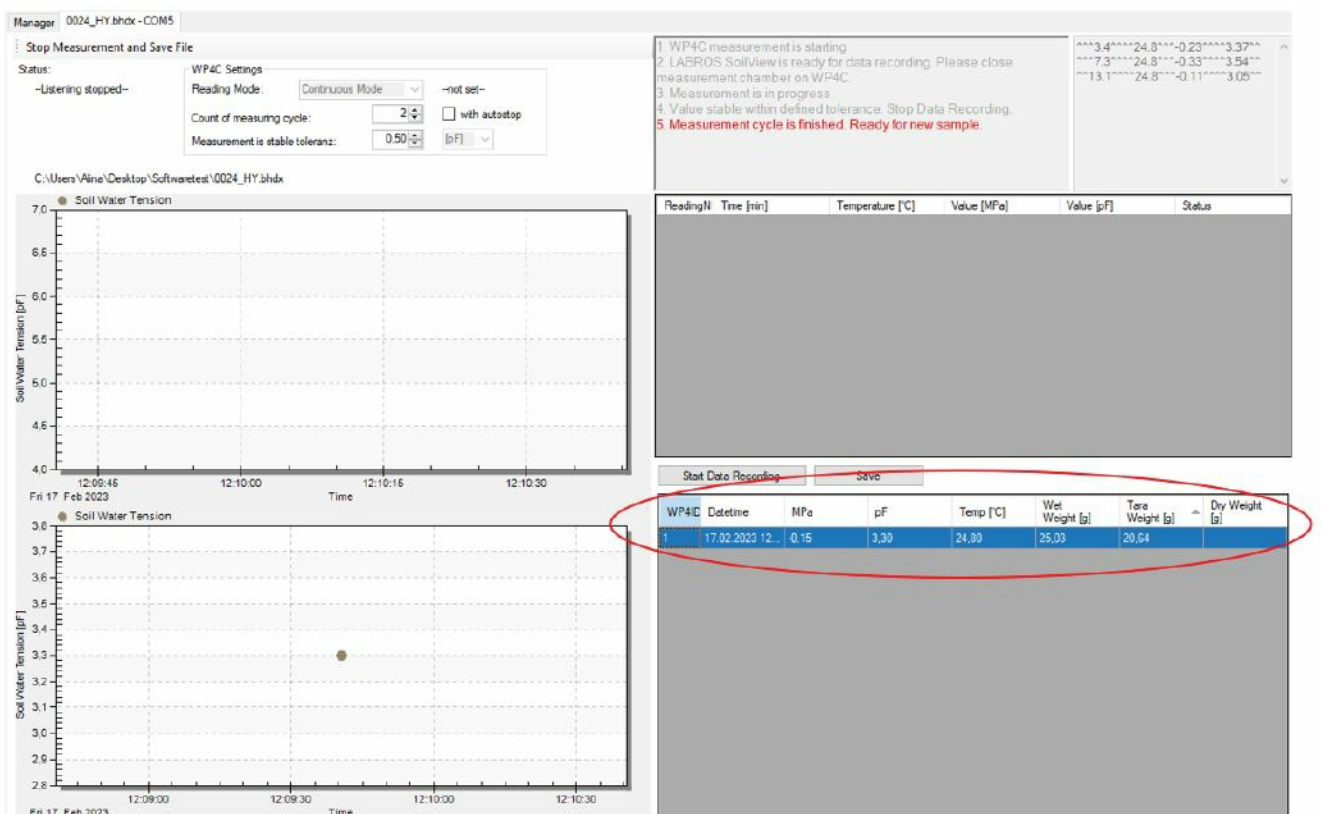

Figure 6 Result Table
8. When using Fast or Precise mode only one data point is recorded and the measurement stops automatically. When using Continuous mode the software records as many data points as defined in the profile Count of WP4C Data Points. The software will verify if the data points are within the defined tolerance; if so stop the measurement by pressing the button Stop Data Recording. The software stops automatically if Autostop is selected. The average is calculated and displayed in the lower table on the right (Figure 6). If the values are not within the defined tolerance the measurements continue.
The wet weight of the sample as well as the tare weight of the cup may be entered directly into the lower table on the right (Figure 6).